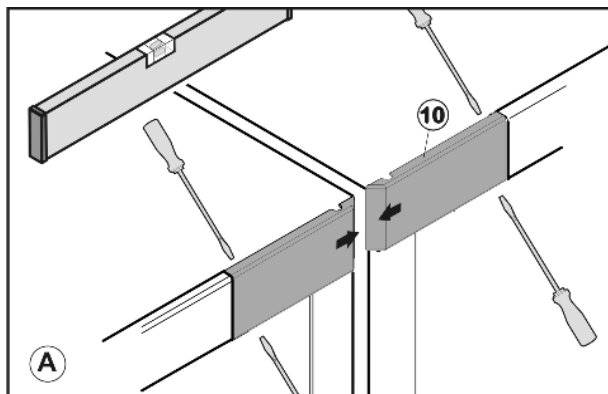

Fig. 49
- Loosen covers Fig. 49 (10) using a screwdriver and pull inwards to remove.